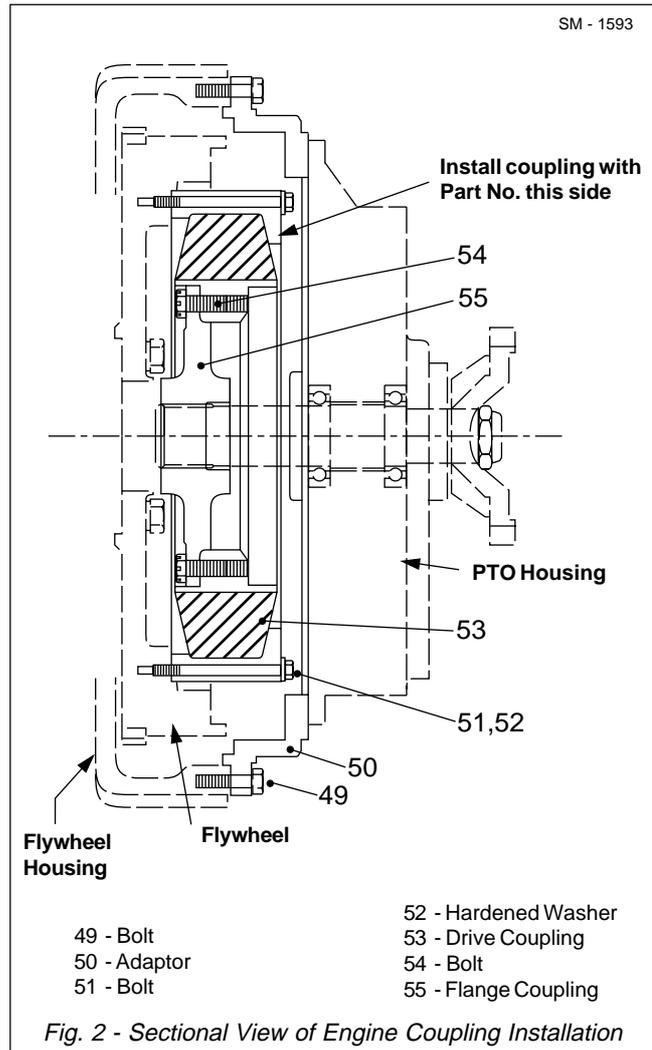

Fig. 2 - Sectional View of Engine Coupling Installation
1. Position spacer (47) and fan (48) on engine (1) fan hub and secure with bolts (45) and lockwashers (46).
2. Thoroughly clean and dry threads on bolts (54) and drive coupling (53) and apply Loctite Activator 'T' to the threads. Apply Loctite 638 to the threads of bolts (54) and drive coupling (53). Position flange coupling (55) to drive coupling (53) and secure with bolts (54).
**Note:** The flange coupling must be installed on the drive coupling side opposite the side that has the part number on it. See Fig. 2.
3. Thoroughly clean and dry threads on bolts (51) and engine flywheel and apply Loctite Activator 'T' to the threads. Apply Loctite 638 to the threads of bolts (51) and engine flywheel. Position drive coupling (53) assembly to engine flywheel and secure with bolts (51) and hardened washers (52). The part number must be facing out. See Fig. 2.
**Note:** Incorrect assembly of drive coupling (53) assembly to the engine flywheel can cause engine and/or power takeoff damage.
4. Position adaptor (50) to the engine flywheel housing and secure with bolts (49). Install the power takeoff and yoke assembly to adaptor (50). Refer to Section 110-0130, POWER TAKEOFF.
5. Install new shock mounts (9) in support (5) assembly and rear mounts (15). Lubricate shock mounts (9) with water and press in using a driver of same diameter as internal metal sleeve in the shock mount to protect the rubber from damage.
6. Secure support (5) assembly to engine (1) with bolts (4). Secure rear mounts (15) to engine (1) with bolts (14 & 23) and hardened washers (12).